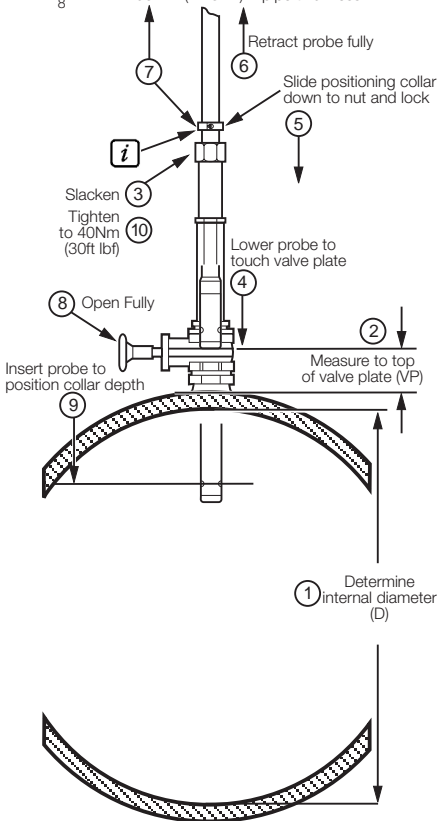

Fig. 2.14 Setting the Insertion Depth – Mean Axial Velocity Method
2.6.3 Mean Axial Velocity Method – Fig. 2.14